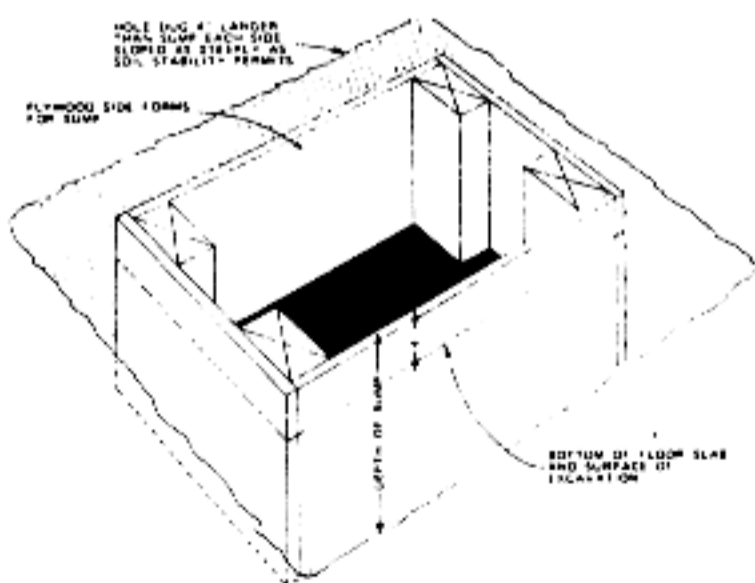
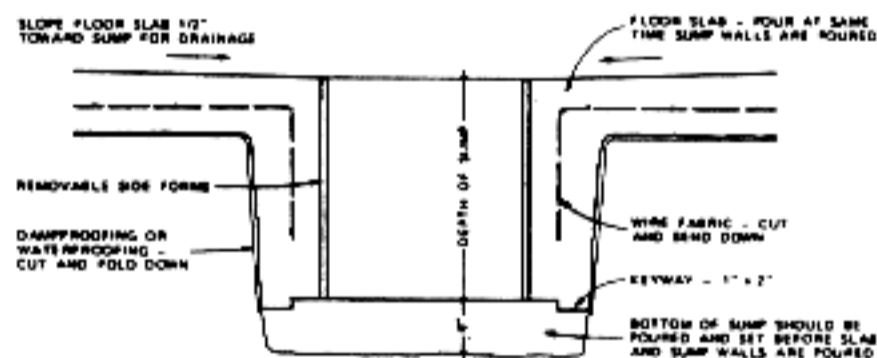

Figure 27. Excavation and forming of the sump
Figure 28. Cross section through the sump
The sump is a pit in the floor slab measuring 12" to 15" each way and 15" to 18" deep. The sump pit is formed by digging an oversized hole in the correct location and to the desired depth below the level of the floor slab. A plywood form, sized for the pit opening, is placed in the hole after a concrete base of the pit is poured (as shown in Figure 28) but before the floor slab concrete is poured. Concrete then is poured around the sump form at the same time the floor slab is poured. When the form for the sump is removed, a concrete lined pit is created into which a sump pump can be placed. Details for construction of the sump are shown in Figures 27, 28, and 29.
**Step 2.** Pour a concrete pad about 4" thick at the bottom of the hole so that the top surface of the pad is at the intended depth of the sump pit. Install a keyway in the wet concrete which is continuous around the four sides of the pad and is positioned as shown in Figure 28. The keyway will provide a bond for the concrete side walls of the sump which will be poured with the floor slab. Trowel the top surface of the freshly poured pad to a smooth surface. The key way may be formed with a length of 1" X 2" with beveled sides (the beveled sides make removal of the keyway easier after the concrete has set up).
**Step 4.** Cut the wire fabric reinforcement and dampproofing or waterproofing membrane diagonally across the corners of the sump form and fold each down around the edges of the hole as is indicated in Figure 28. If a waterproofing membrane is used any cut edges must be sealed to make the membrane watertight (see Section 7 for a discussion of waterproofing membranes).